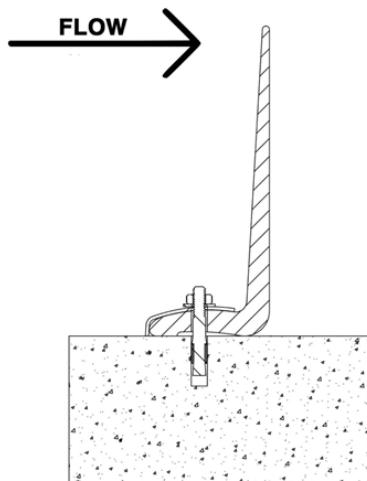

Figure 1. Flexi Baffle Orientation
2. Secure the center of the Flexi Baffle then turn it perpendicular to the water flow. See Figure 1 for the proper Flexi Baffle orientation.